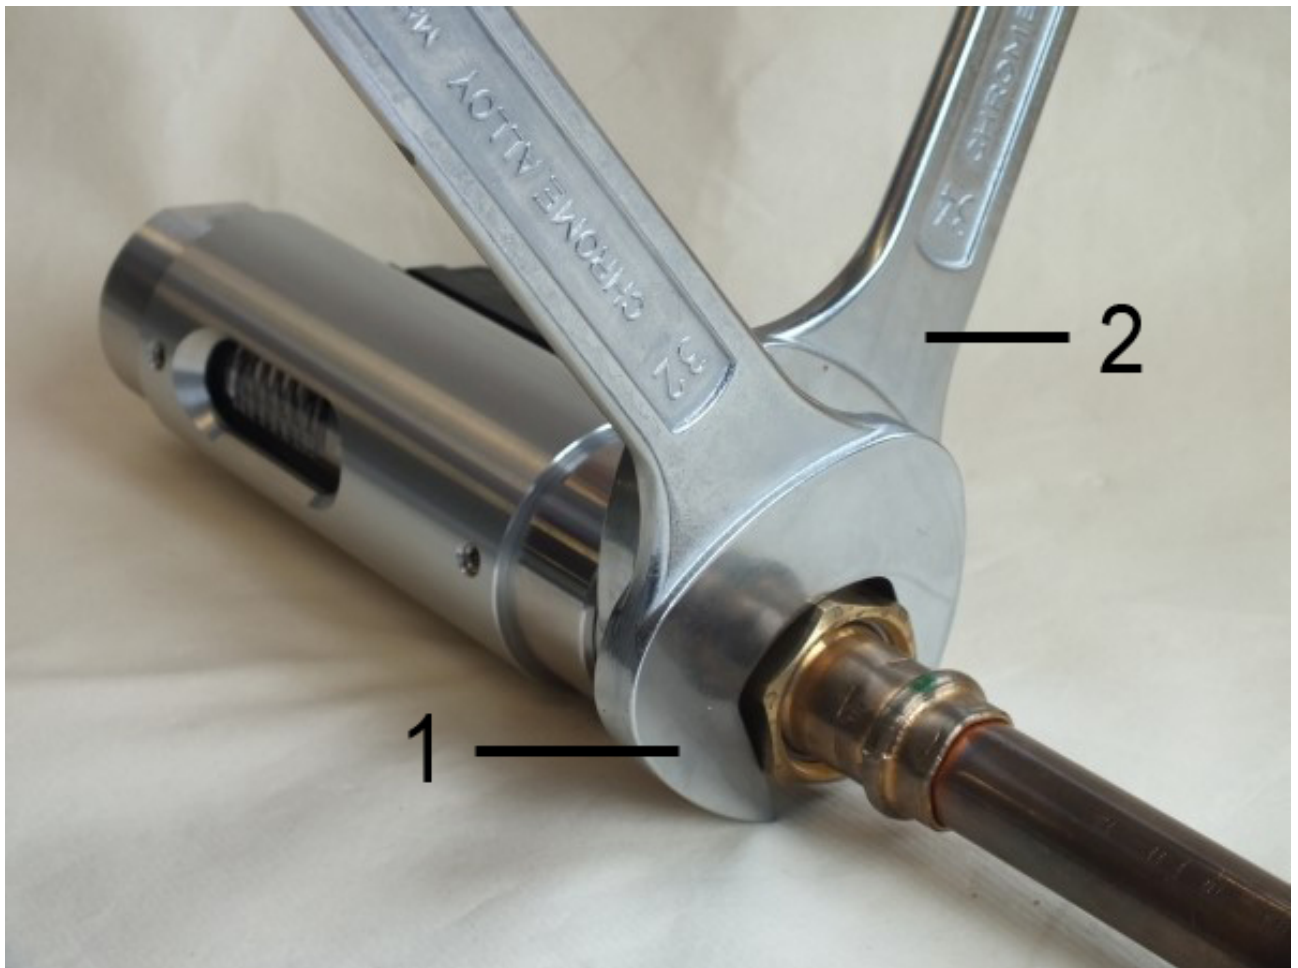

Fig. 10: Screw in the device
2. ➡ Fasten the adapter union of the pipeline with an appropriate spanner (*Fig. 10/1*). When doing so, lock the process connection of the device in place to prevent slip, using a suitable spanner (*Fig. 10/2*).